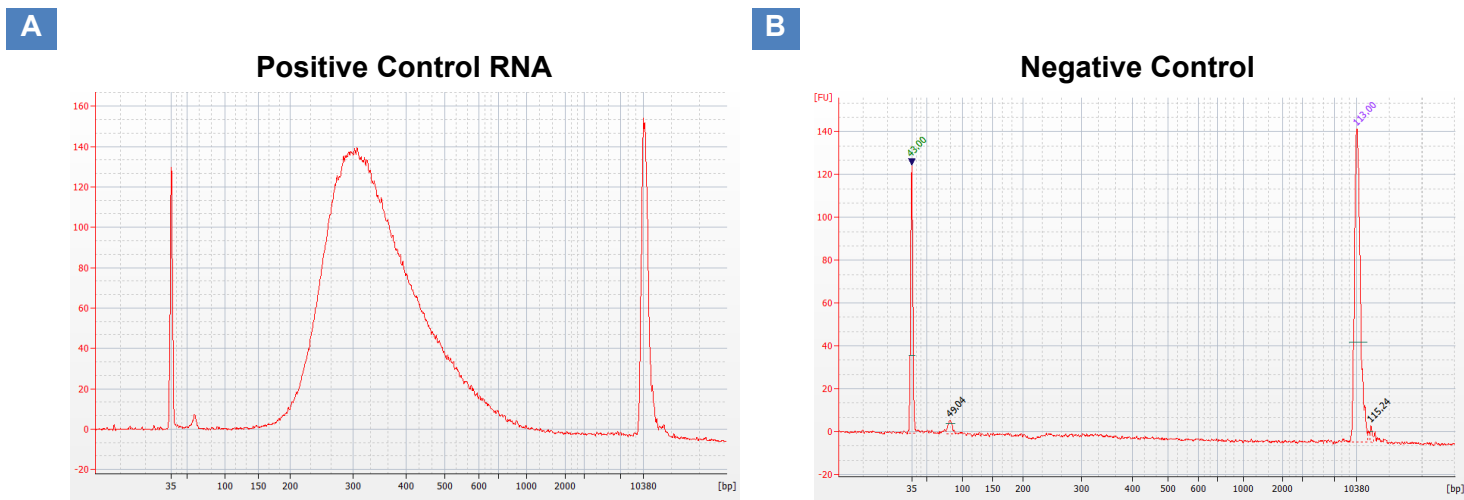

Figure 3. Example electropherogram results from Agilent 2100 Bioanalyzer.
- Compare the results for your samples and controls (if performed) to determine whether the sample is suitable for further processing. Successful cDNA synthesis and amplification should yield a distinct peak spanning 150–1,000 bp, peaked at ~300 bp for the positive control RNA sample (Figure 3, Panel A) and no product in the negative control (Figure 3, Panel B). The RNA-seq library yield should be >7.5 nM (depending on the input and number of cycles).